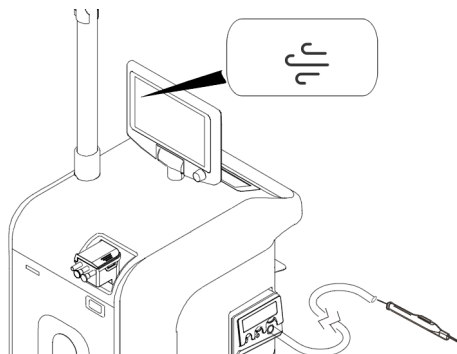

Figure 32 To Remove Smoke Evacuation Components
2. Gather the smoke evacuator tubing with any connected attachments toward the smoke evacuator filter. Remove the tubing and any connected attachment from the smoke evacuator filter (Figure 32).